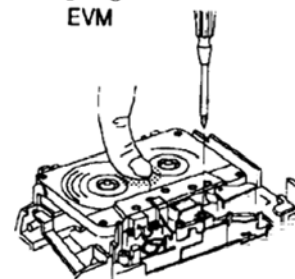

Fig. 3
- If you wish to readjust the head azimuth, be sure to adjust with adhering the cassette tape closely to the mechanism by pushing the center of cassette tape with your finger. (shown in Fig. 3)